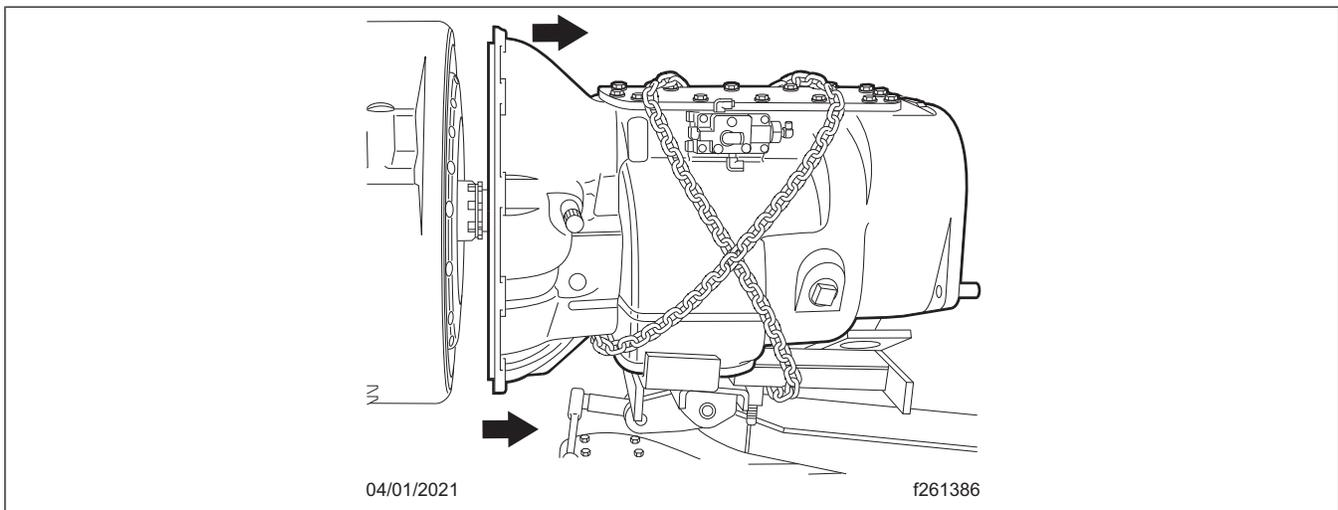

Fig. 6, Transmission Removal
19. Pull the transmission back, until the transmission input shaft is clear of the clutch and the engine flywheel housing. Lower the transmission. See Fig. 6.